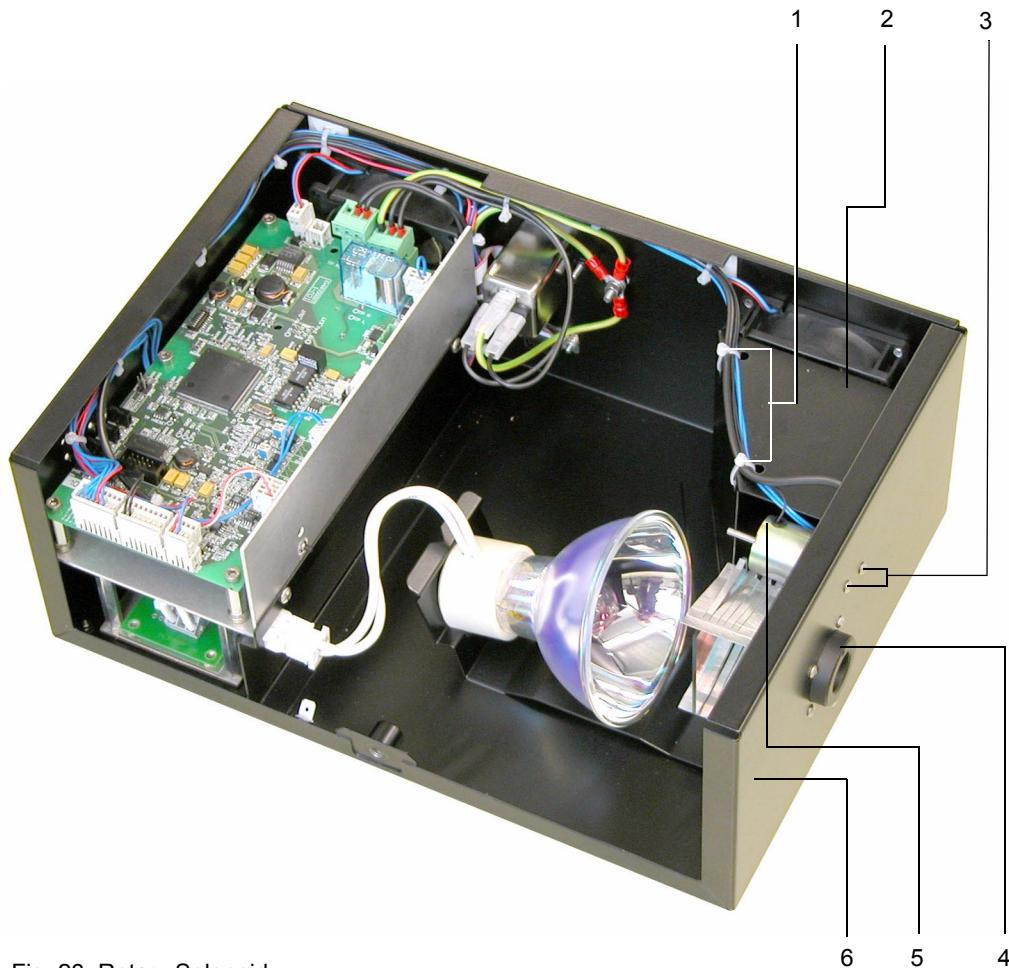

Fig. 23: Rotary Solenoid
The rotary solenoid is shown in Fig. 23 (5) on 50.
7. **Fig. 23:** Disconnect the WAG0 8-port connector from the ICU.
8. Remove the cable ties (1) at the cooling duct (2).
9. Remove the rotary solenoid (5) by unscrewing the two screws (3) which fasten it to the illumination module housing (6).
15. Make sure that when in active position, the blind totally covers the opening of the fiber connector (4).